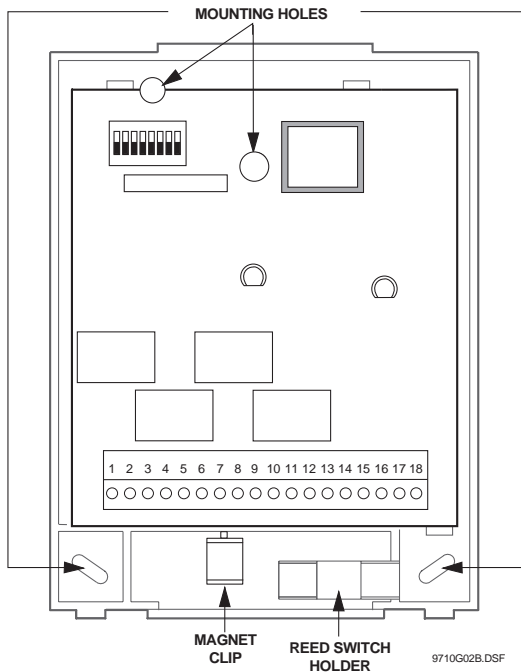

Figure 3. Mounting Holes
2. Place the back-plate on the wall and mark the mounting holes (Figure 3).